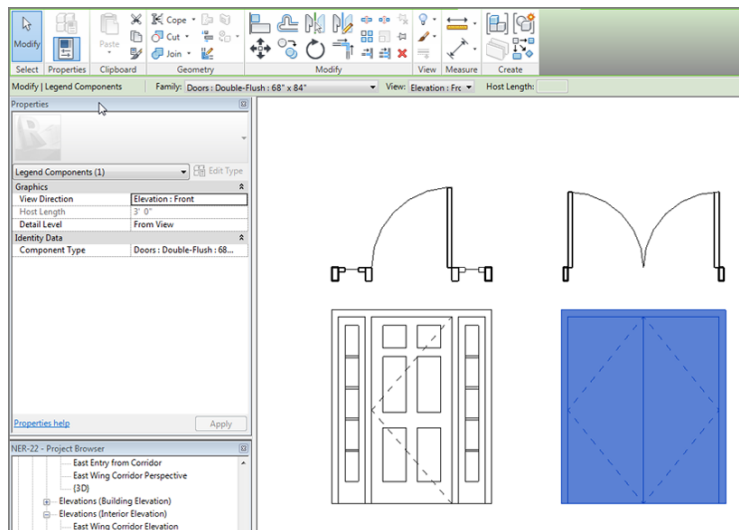

FIGURE 11.43: The two doors (two views each) in the legend
10. Place the corresponding plan view just above the door. Make sure Host Length is set to 6'-0" (1800mm) (see Figure 11.43).